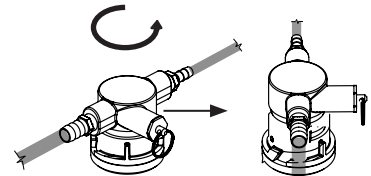

Figure 43a
9. Hooking up the keg coupler to the keg: Verify the coupler is in the "OFF" position (see Figure 43a). Align the lugs on the keg with the corresponding openings on the keg coupler and turn clockwise until the coupler stops (about 90°). Push down and twist the top of the coupler clockwise to allow gas to enter the keg.